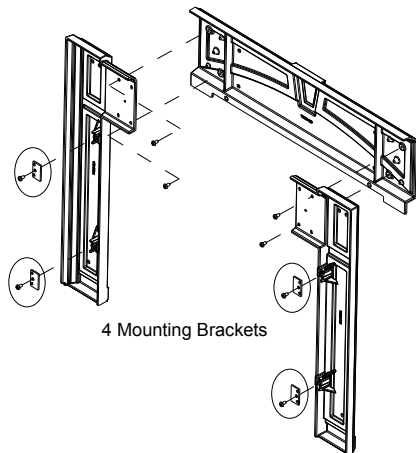

Figure 22.1
4. Attach the mounting brackets to the side pieces included with the kit (**Figure 22.1**).